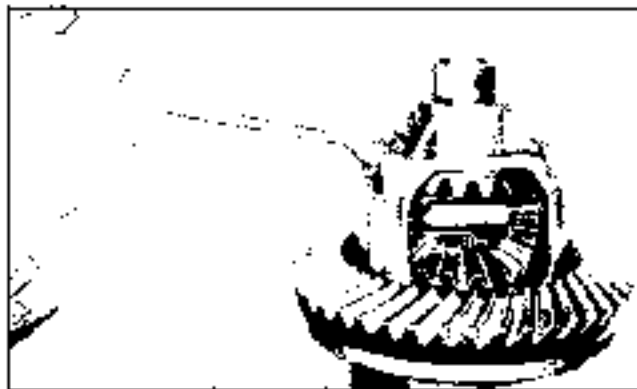

Fig. 4A-26 Installing Pinion Shaft Locking Bolt
7. Install pinion shaft and pinion shaft locking bolt. Torque to 15 lb. ft. (Fig. 4A-26).